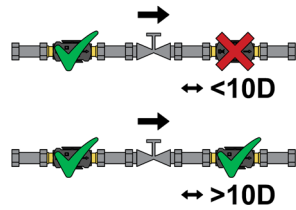

Fig.2
2. Do not place the flow sensor immediately after a butterfly valve or a regulating control valve. However, previous installation is permitted (*Fig.2*);